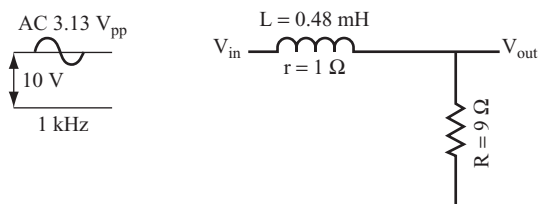

FIGURE 6.59
7. Use the circuit shown in Figure 6.59.